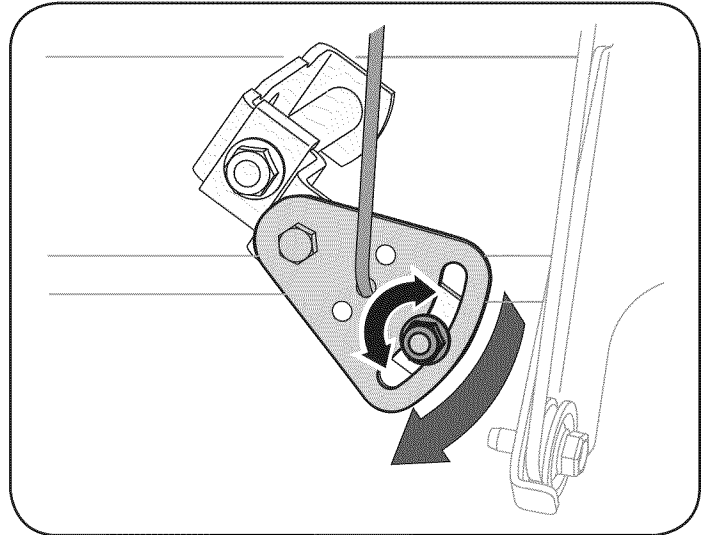

Figure 25
2. Loosen the hex nut on the shift cable index bracket. See Figure 25.